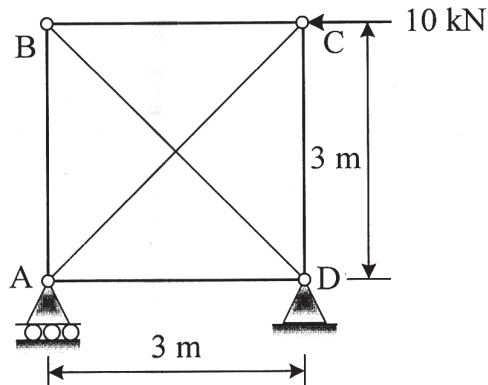

Fig. 4 (b)
4. (a) A simply supported beam is loaded and supported as shown in Fig. 4 (a). Determine shear and moment at D by influence line diagram. [6]
- (b) Find forces in members of the indeterminate truss as shown in Fig. 4 (b) by strain energy method. Cross-sectional area and material of all members is same.